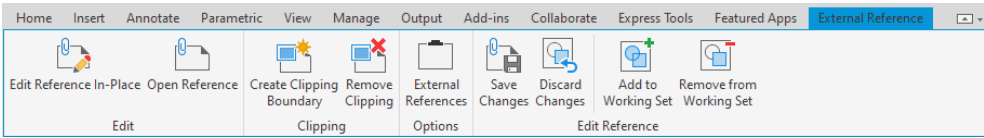

Figure 2-35 The *External Reference* contextual tab added to the *Ribbon*
1. To edit in-place, select an external referenced object; the **External Reference** contextual tab will be added to the **Ribbon**, as shown in Figure 2-35. Choose the **Edit Reference In-Place** tool from the **Edit** panel; the **Reference Edit** dialog box will be displayed.